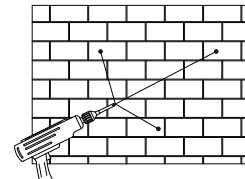

Figure 13
8. Drill three (3) holes in the wall that match the locations of the holes drilled in step 7 when mounted. (see Fig. 13)